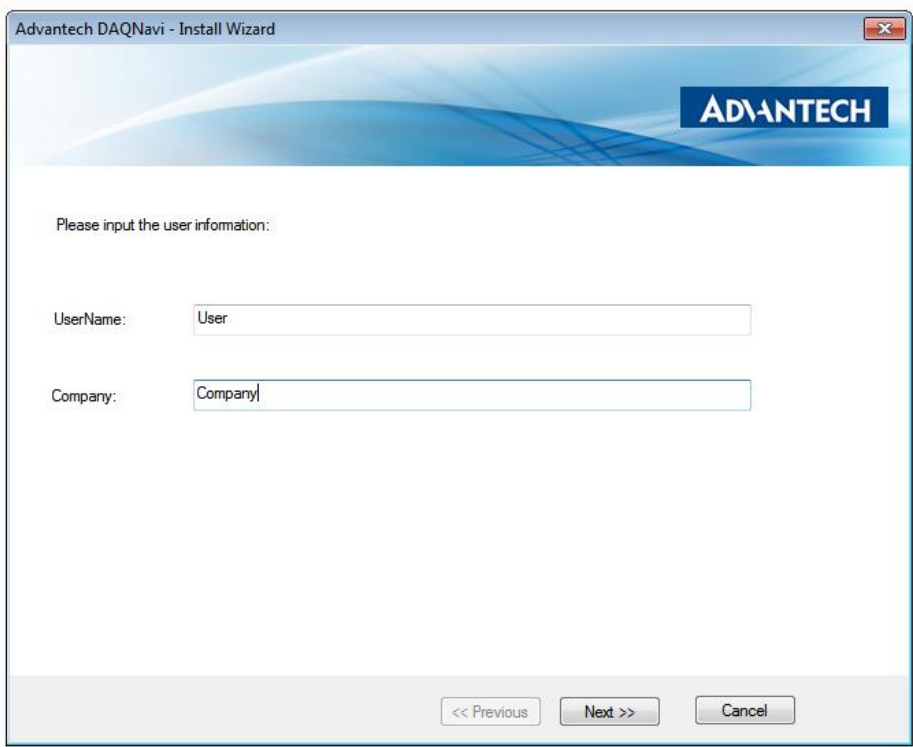

Figure 4 User Information Window
3. Press 'Next' to continue to the User information window (Figure 4).